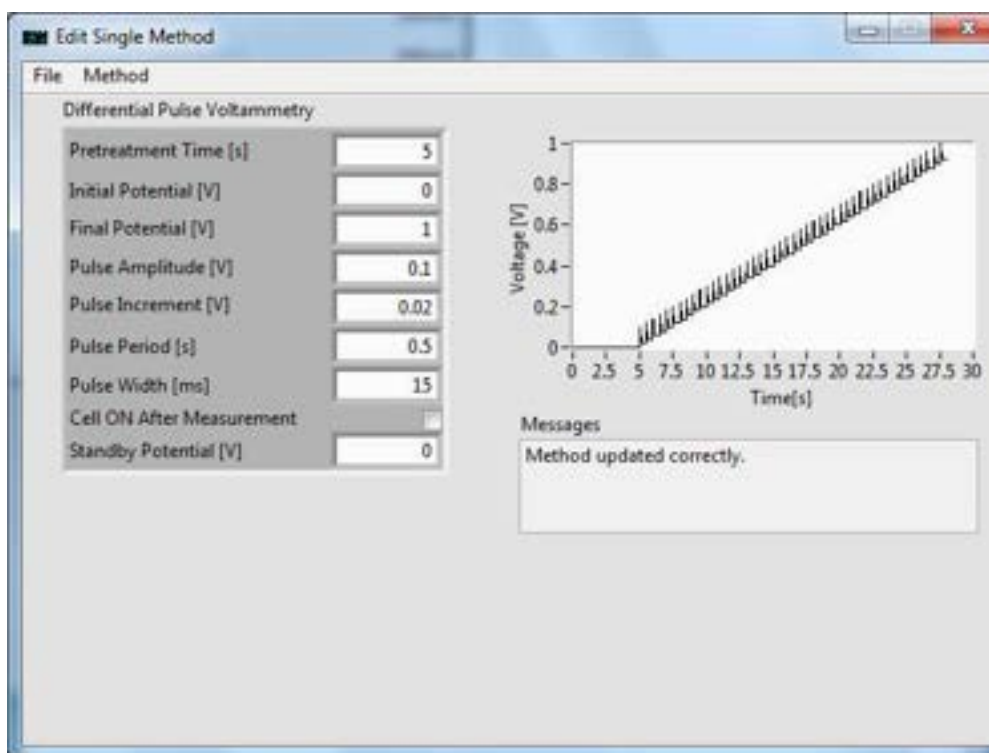

**Figure 19.** Battery recipe editor
1. For battery cycling, go to [NuVant EZware] **Technique**→*Electrochemical Energy Sources*→Battery. [Edit Single Method] shows the input boxes for **Battery** (Fig. 19).